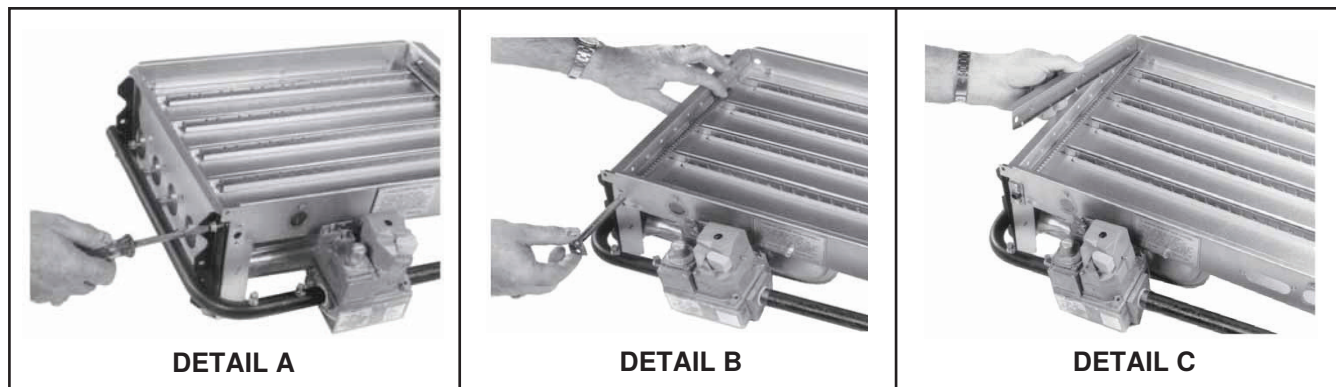

Figure 59. Carryover Lighter Tube and Drip Shield Installation
- a. Loosen screws that secure manifold to burner rack. Remove top screws as shown in **Figure 59**, DETAIL A.
- b. Slide carryover lighter tube into burner rack as shown in **Figure 59**, DETAIL B.
- d. Install drip shield as shown in **Figure 59**, DETAIL C.